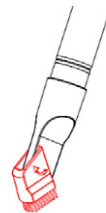

Fig. 11
2. As in **Fig.11**, attach small brush to clean the sofa, the curtain and the dust on the ornaments.